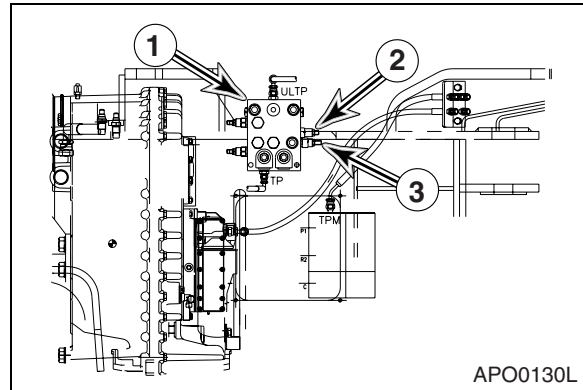

Figure 99
2. Adjust brake charge valve cartridge (2, Figure 99) on brake and pilot supply valve (1, Figure 99). Relief pressure for brake charging is $140/120 \text{ kg/cm}^2$ (1,990/1,707 psi).